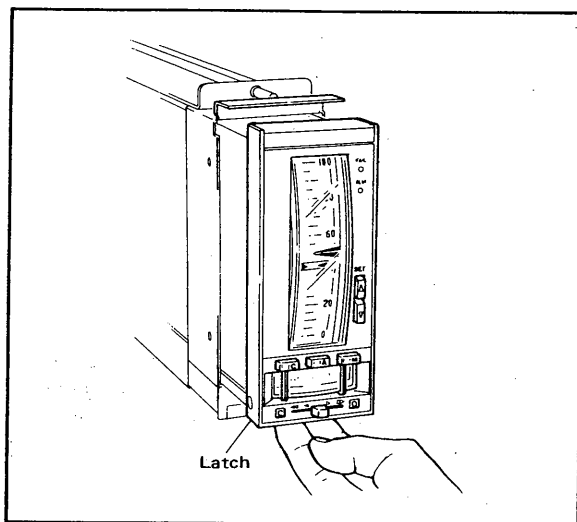

Figure 5-6. Pushing Up the Bottom Latch.
- (1) Holding the instrument, push up the latch on the front bottom of the controller and withdraw the internal assembly from the housing until the rear latch on top of the internal assembly engages (see Figure 5-6). This position allows access to the tuning panel.